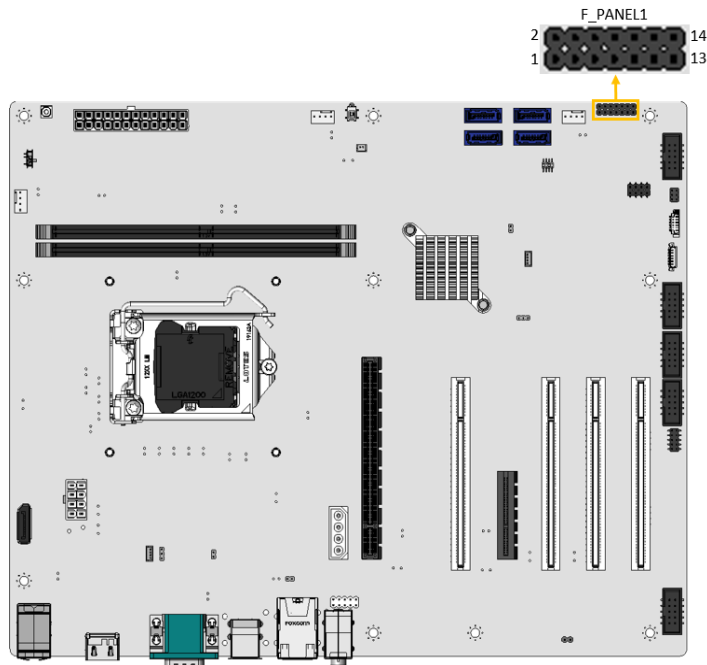

Figure 3-12: Front Panel Location
- CN Location:** See Figure 3-12